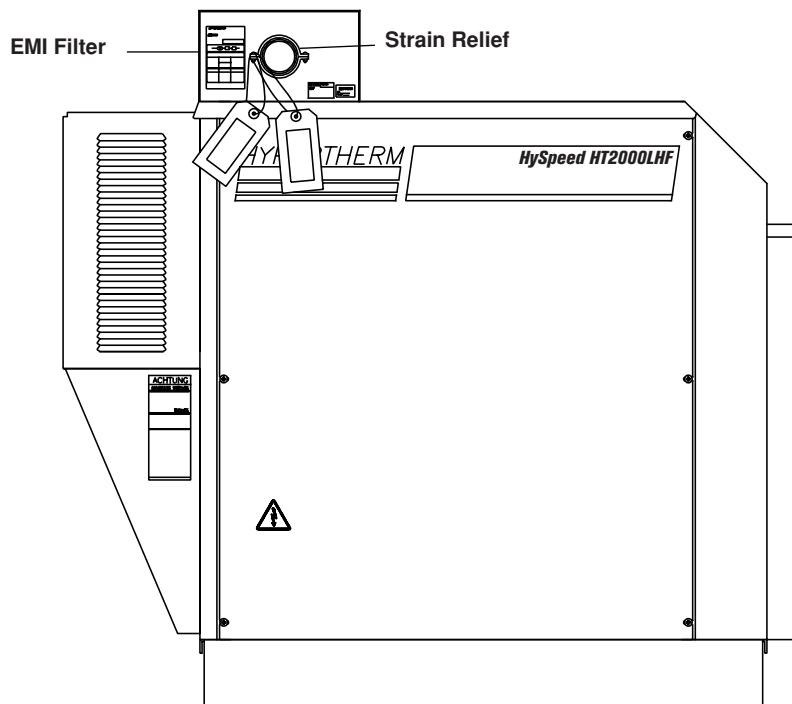

Figure d-1 HySpeed HT2000LHF Power Supply with EMI Filter – Side View
1. Locate the EMI filter on the top rear of the power supply (see Figure d-1).
3. Insert the power cable through the strain relief (see Figure d-1).